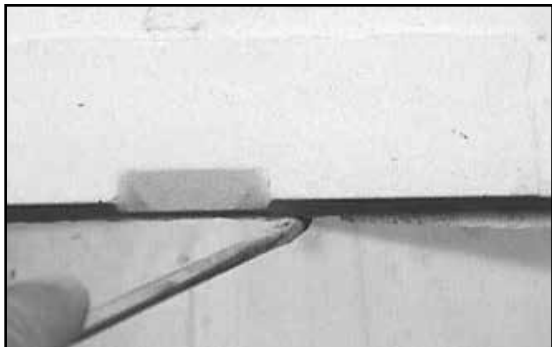

Figure 8.2 Scrape Away Rough Edges
**Note:** Before installing refractories and hearth stone, be sure all back edges of each piece are smooth to ensure proper fit. Scrape away excess with a regular screwdriver. See Figure 8.2.